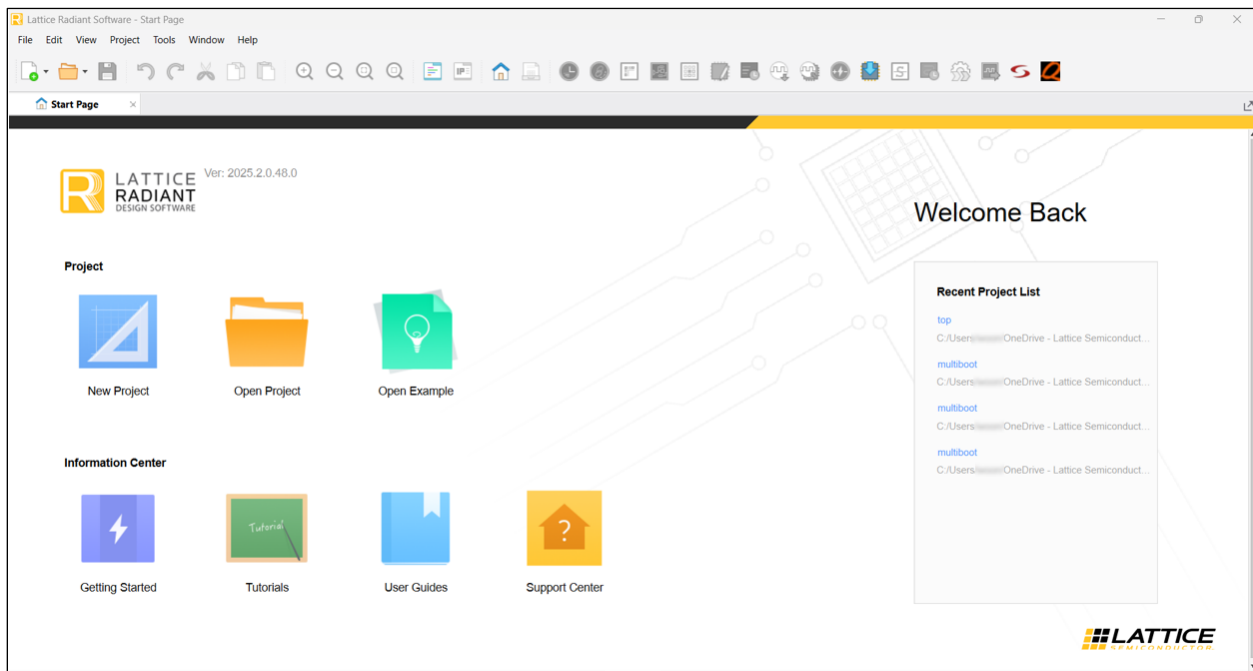

Figure 5.1. Lattice Radiant Software
1. Open the Lattice Radiant software, as shown in Figure 5.1.